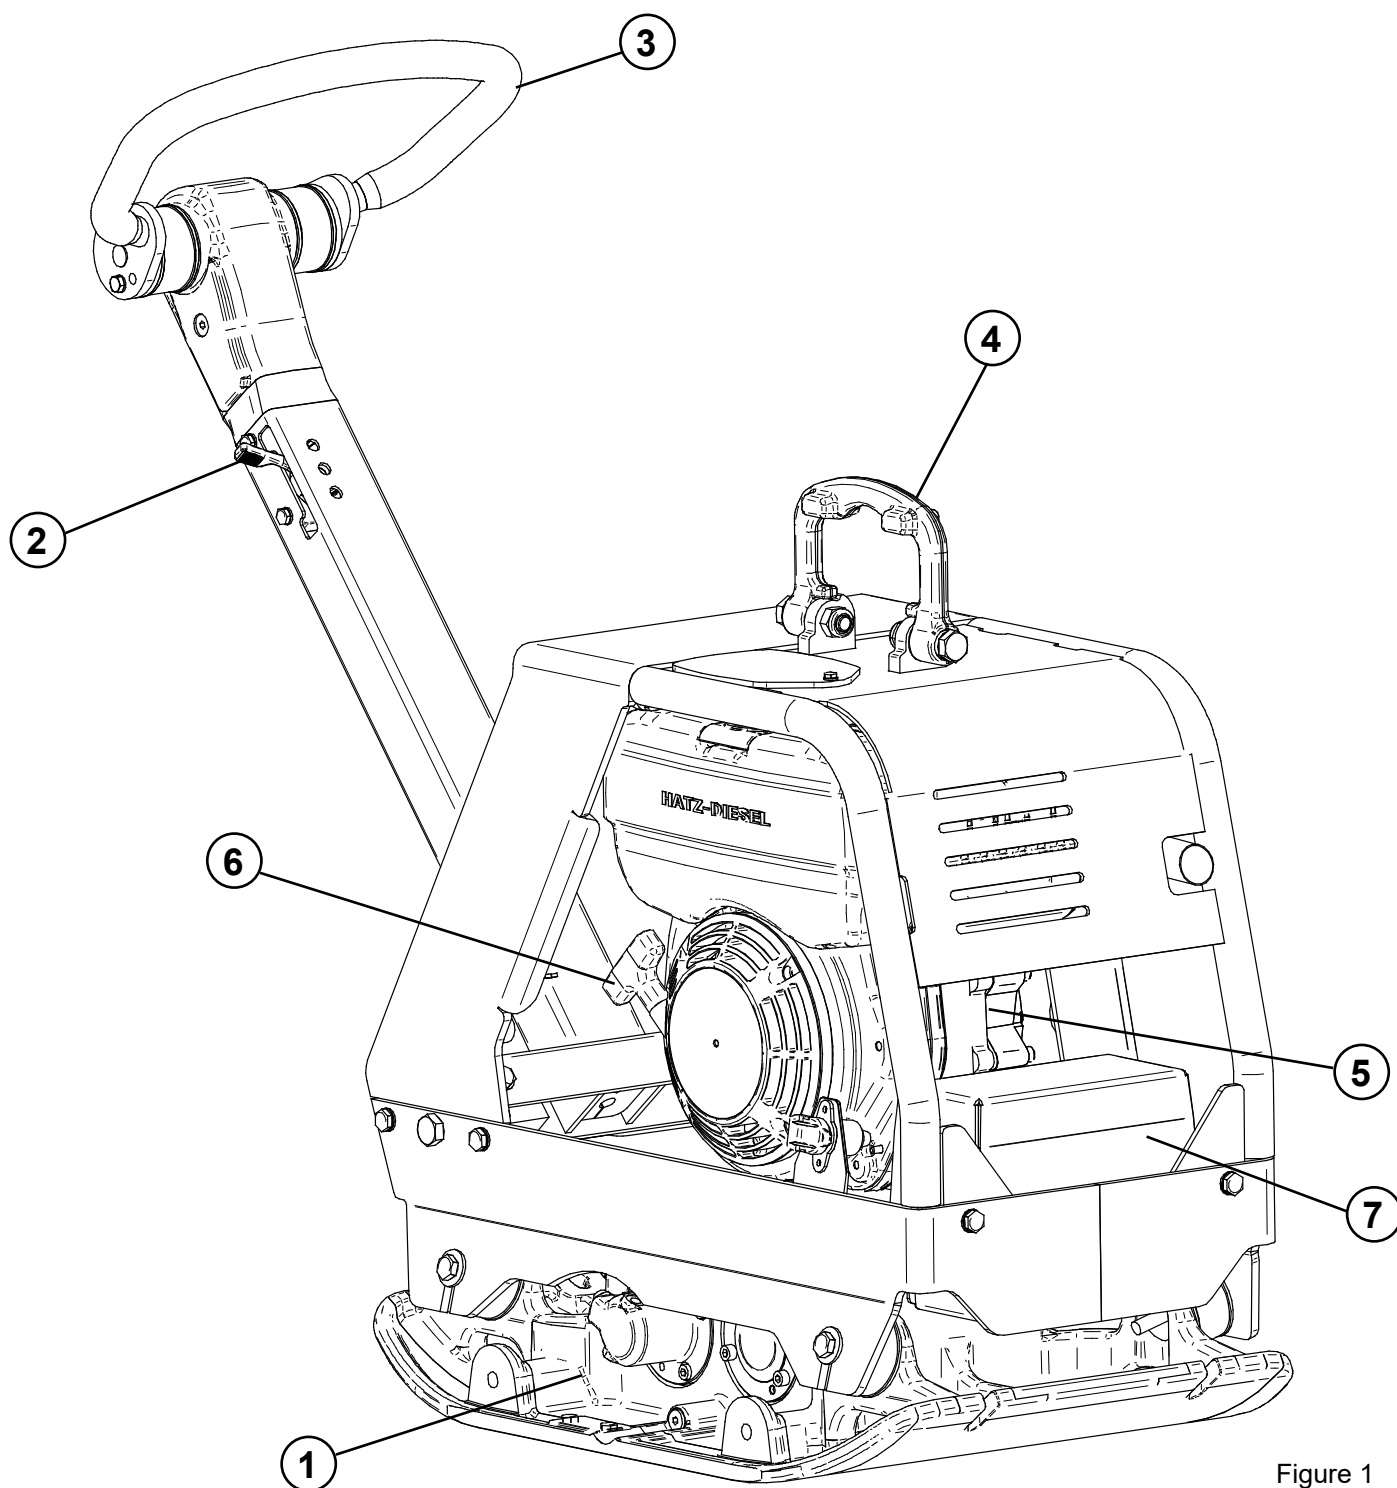

Figure 1
- ▶ Bring the gas lever (position 2, figure 1) into the full-throttle position.
- ▶ Slowly pull the handle of the reversing starter (position 6, figure 1) until resistance (the compression of the engine) is noticeable.